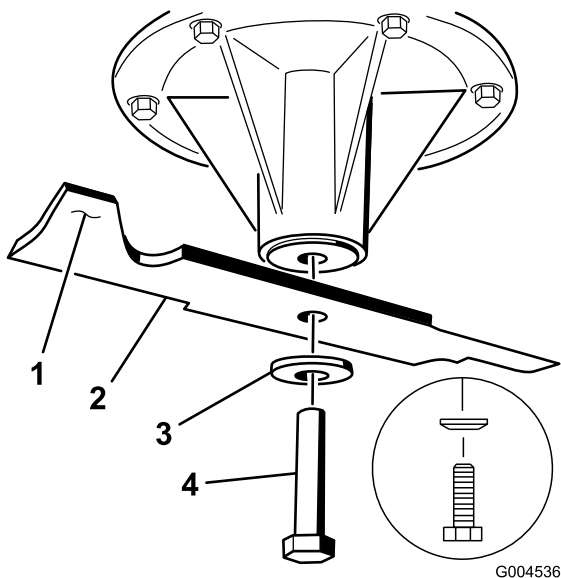

Figure 94
2. Remove the blade bolt, the curved washer, and the blade from the spindle shaft (Figure 94).
3. If the blade is not balanced, file some metal off the end of the sail area only (Figure 94).